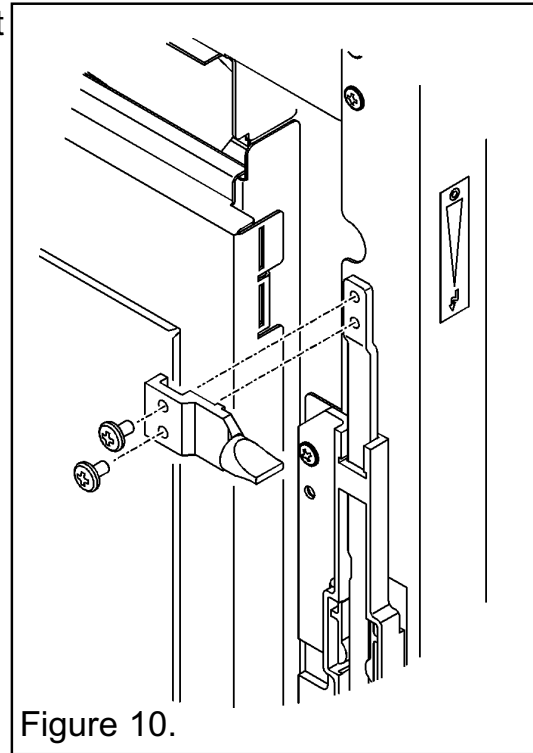

Figure 10.
- Fit the control knob to the slider assembly using two M4 x 7mm screws supplied (See figure 10)